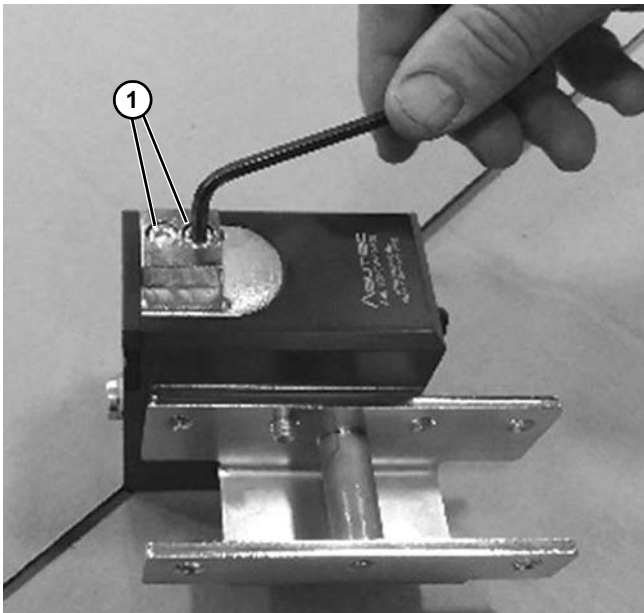

Figure 10
4. Remove fasteners (Figure 10, item 1) on top of pallet stop.